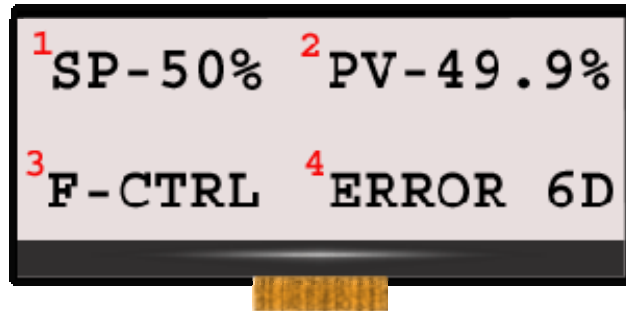

Figure 19
13.1.1. The run time display indicates the following parameters as shown in Figure 19.